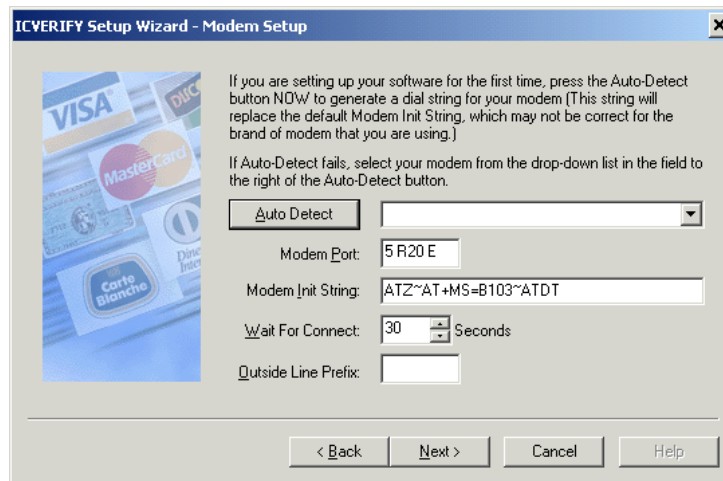

Figure 3.1.6-1: Modem Setup
22. Stop once you reach the “Modem Setup” screen (see **Figure 3.1.6-1** below).